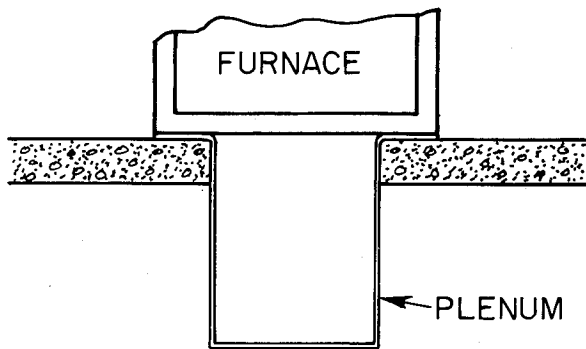

**Fig. 5—Furnace on a Concrete Slab
2. Place plenum and furnace as shown in Fig. 5.